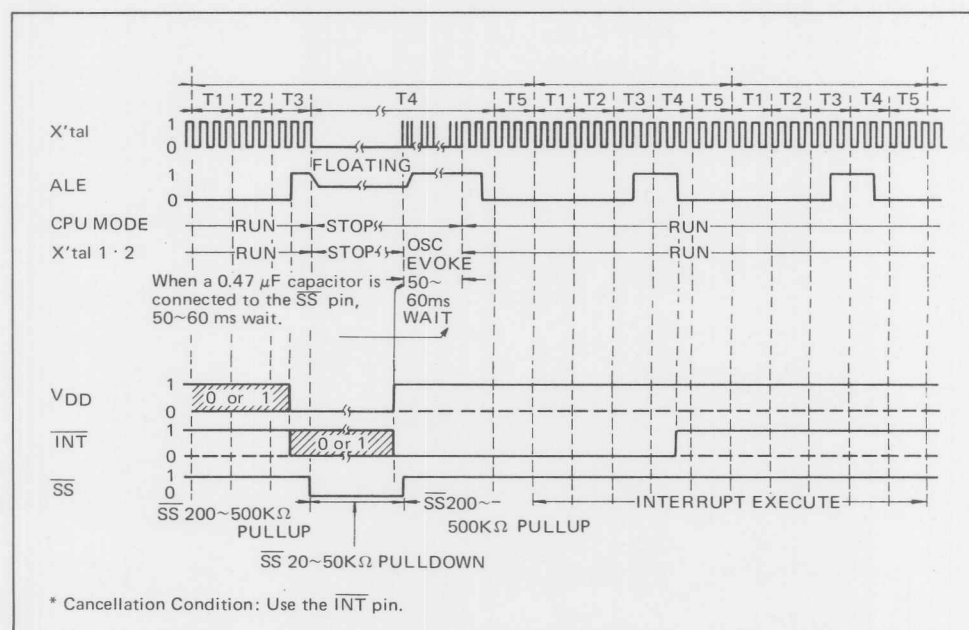

Fig. 4-6 Hardware Power Down Mode Timing Chart
However, if the power down mode is started during an interrupt processing routine, execution will be continued on the next instruction after the present instruction. The timing chart is outlined in Fig. 4-6.
- The clock generator is activated and the CPU started up when a "1" level is applied to the VDD pin while a "0" level is applied to the  $\overline{\text{INT}}$  pin. If this "0" level is maintained until at least 2 ALE output signals occur, execution is continued on the next instruction after the present instruction. The timing chart is outlined in Fig. 4-6.